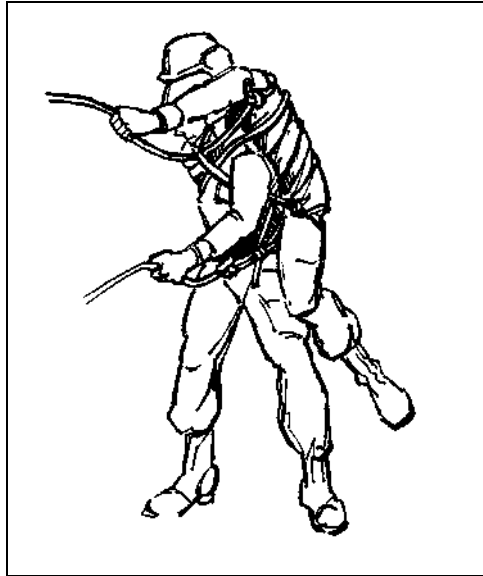

Figure 2-7. One-man carry.
(4) A casualty secured to a carrier, as described above, can be rappelled down a steep cliff using a seat-shoulder or seat-hip rappel. The casualty's and rappeller's shoulders should be padded where the sling rope and rappel lines cross if a seat-shoulder rappel is used. The buddy team should be belayed from above with a bowline tied around the victim's chest under his armpits. The belay rope must run over the rappeller's guide hand shoulder (Figure 2-7).